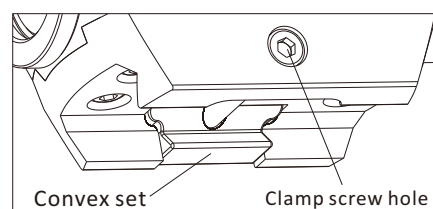

Fig 3
2. Firstly insert the Allen wrench into the clamp screw hole, then rotate to loosen the convex set, slid the sight into the weapon rail to a right position, and finally fasten the clamp screw.(Fig3)